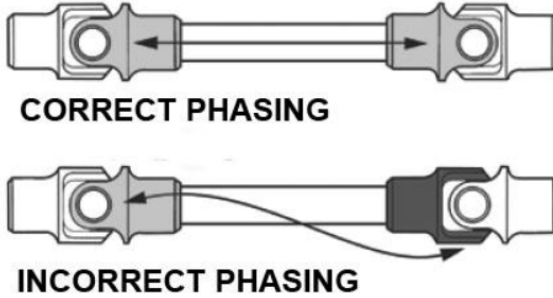

Figure 23
40. Install the splined end u-joint onto the steering rack with the allen screws lightly set. **(Figure 23)** The u-joints that complete the steering shaft need to be in phase. **(Figure 24)** Rotate the joints as needed before final installation.